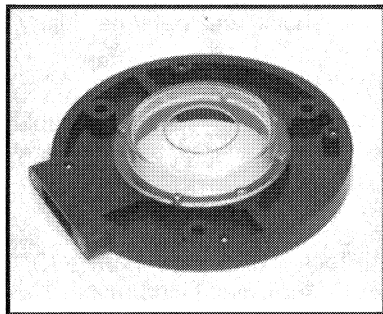

Fig. 2
1. Use four #4-40 x 1/4" screws (from hardware package), to assemble the clear cover to the top of the vacuum base (see Fig. 2).